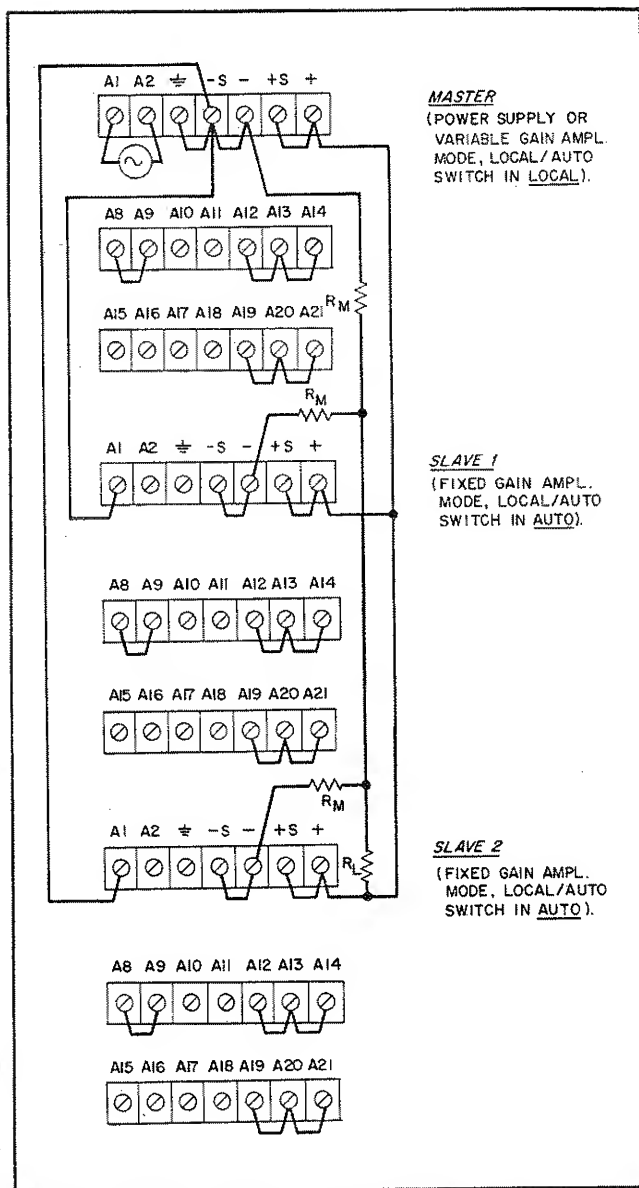

Figure 3-13. Auto-Parallel Connections, Three Units
**3-61 Auto-Parallel Operation.** Two or more BPS/A's can be connected in auto-parallel arrangement to obtain an output current greater than that available from a single supply. Figure 3-13 illustrates the auto-parallel connections for three supplies to allow increased output current in constant voltage operation. When this arrangement is used, current sharing under all load conditions is permitted under control (front panel CURRENT control or remote programming) of the master supply. Because the CURRENT controls (or remote programming) of each slave are operative, they should be set to a maximum to prevent the slave reverting to constant current operation; this could occur if the master output current setting exceeded the slave's. For equal current sharing, the leads from RM to the load and to the (—) terminals should be approximately equal in length. To maintain instrument accuracy and stability, RM should be a stable, low temperature coefficient resistor of sufficient rating to prevent any appreciable self-heating (typically 1 $\Omega$ , 8W,  $\pm 20$  ppm/ $^{\circ}C$ ,  $\pm 1\%$ ).